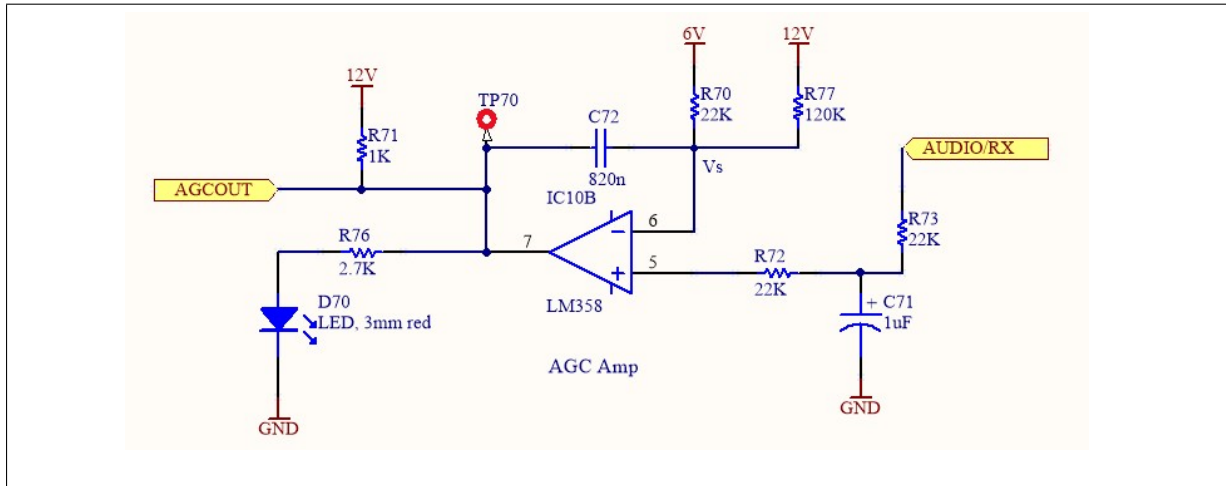
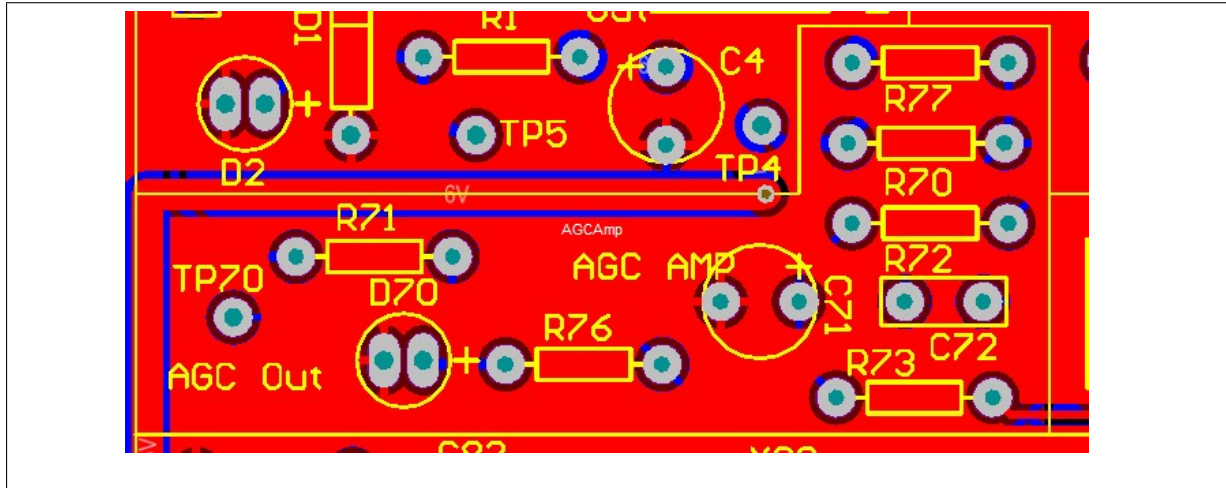

Figure 4: Automatic gain control circuit.
Figure 6: Correct PCB annotations for AGC circuit.
2. The automatic gain control (AGC) circuit of TRC-11 is given in Fig. 4.
- Now, we are ready to incorporate the automatic gain control (AGC) circuitry to prevent saturation of the IF amplifiers. Refer to Fig. 4. Note that the PCB annotations of C72 and R72 are inadvertently swapped. Correct PCB annotations are shown in Fig. 6.
- The automatic gain control (AGC) circuit of TRC-11 is given in Fig. 4. Place R70, R71, R72 (in its corrected place), R73, R75, R77, and D71. Watch the direction of the PIN diode. Solder them. Cut the leads on the back side.